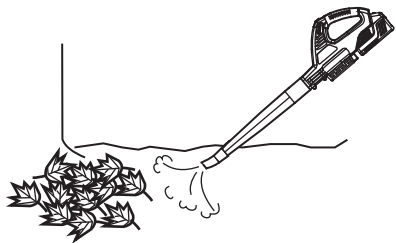

Fig. 4
2. Hold the blower with the nozzle several inches above the floor or ground (Fig. 4).